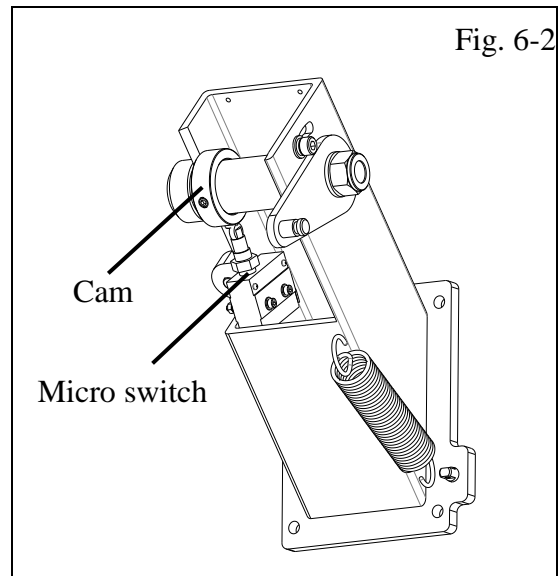

Fig. 6-2
- Check the micro switch is held down when the guard is closed. If necessary, adjust it by turning the cam to the proper position (ref. fig.6-2).